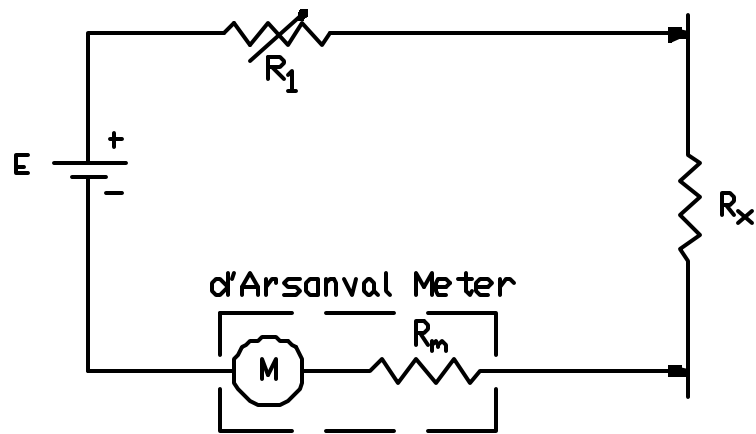

Figure 6
2. Using an 50mV, 5mA d'Arsonval meter to make an ohmmeter as shown in Figure 6, what percentage of full-scale deflection would occur if an unknown resistance $R_x = 5.6k\Omega$ is measured. Let $E = 1.5V$.
(2) Design a voltmeter with a full-scale reading of 10V. Calculate the sensitivity of the meter in ohms per volt. Connect this voltmeter directly across the output terminals of the voltage supply and place the VOM to serve as a voltmeter in parallel with this. **WARNING: BE SURE THE VOM IS READING DC VOLTS BEFORE ATTACHING TO THE CIRCUIT.** Again determine the error between the VOM readings and your voltmeter as determined from $V = I_m(R_m + R_s)$. How does the accuracy of the milliammeter and the voltmeter constructed from it compare. Explain.
(3) Construct the ohmmeter of Figure 6 and measure five unknown resistances ' R_x ' ranging from 1k Ω to 10k Ω . A battery and a variable resistor will be supplied and an appropriate voltmeter must be constructed. Check the resistance values with your ohmmeter and the VOM and note whether the resistors are within their tolerances specified by the color codes upon them. Finally, observe that the accuracy of the ohmmeters depends upon the tolerance of R_1 and the accuracy of the milliammeter within the circuit.